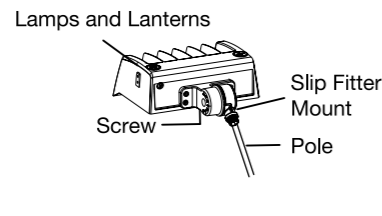

Figure 3.4
STEP 3: Loosen screws; Adjust fixture angles as per actual demands and tighten screws later;Angles of the fixture is adjustable (pass the bracket through mounting surface, fix it with screws, then connect the wires as per proper wiring requirements.)(Figure 3.4)